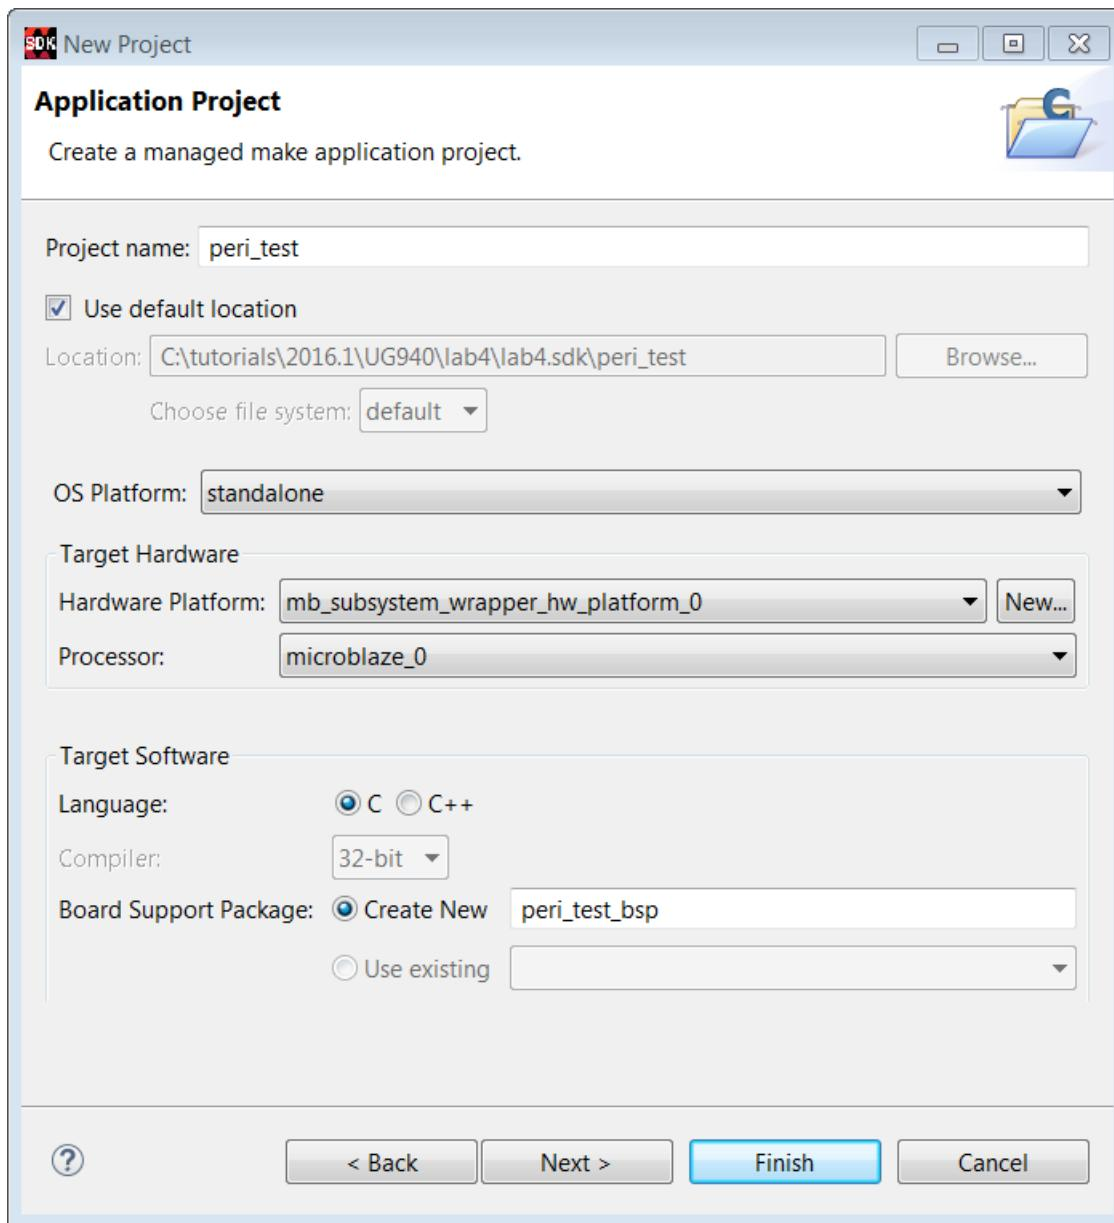

Figure 113: New Project: Application Project Wizard
4. Type a name (such as peri_test) for your project and choose standalone as the OS platform, as displayed below in Figure 113.